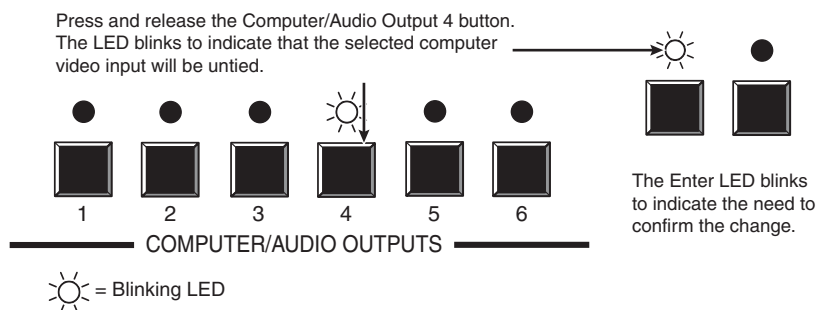

Figure 3-18 — Deselect the output
4. Press and release the output 4 button (figure 3-18).